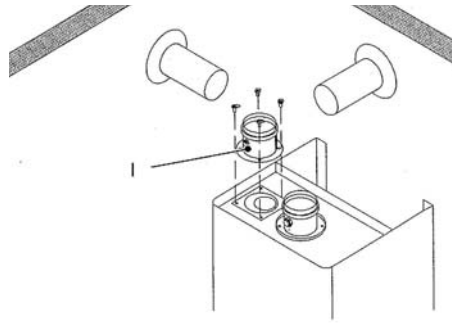

Figure 5
Remove the intake cover plate. Install the intake gasket over the intake hole. Mount the intake collar (I) with the 4 screws (G) supplied, as shown in figure 5.